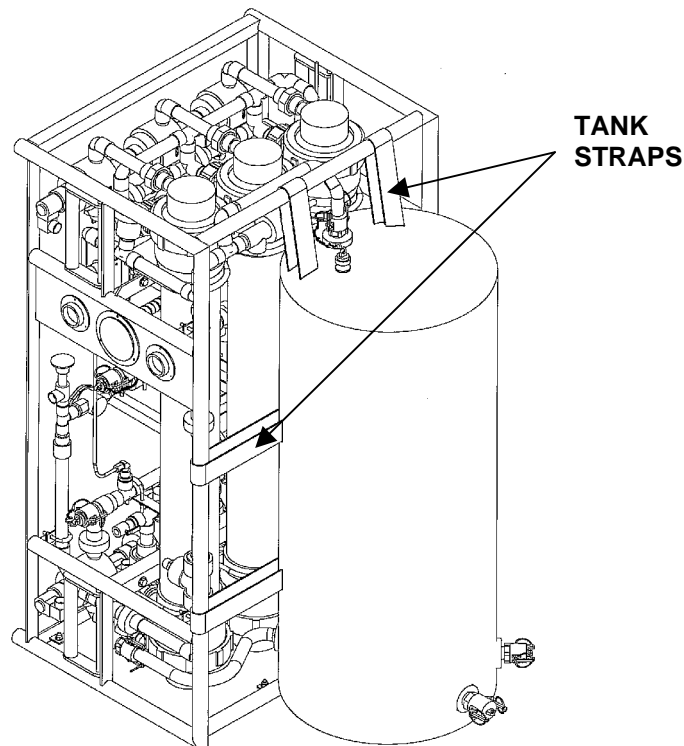

Figure 1. UF Filtrate Tank.
1. Ensure that the filtrate tank (1) is drained. Remove the straps from the module frame. See Figure 1.